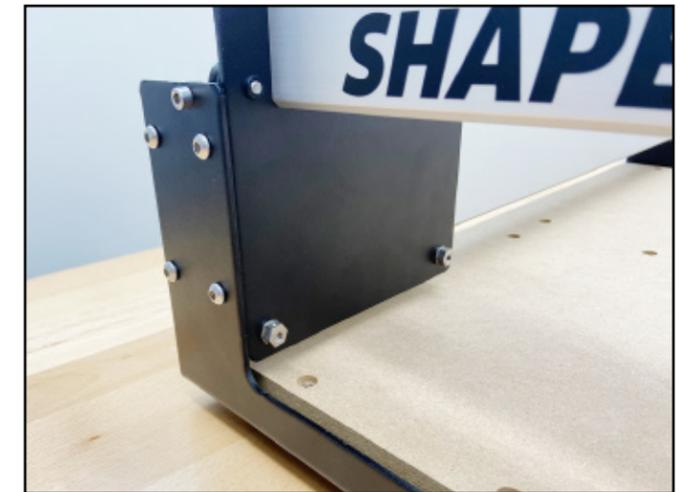

Figure 9-3
3. With all thirty-six (36) structural screws now loose, **HOLD** the X-rail **FORWARD**, bringing both Y-carriage plates squarely into contact with the front endplate. See **Figure 9-3**.